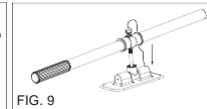

FIG. 9
- Attach the oars to the oarlocks and lock them into position. (FIG. 9 & 10)